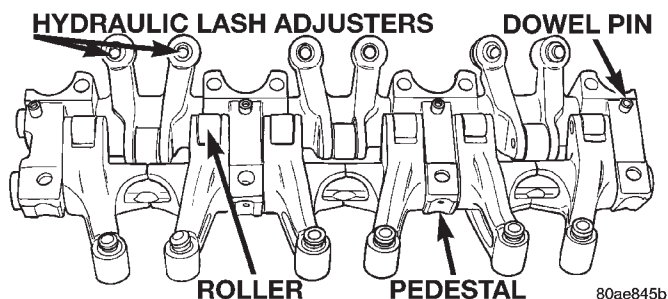

Fig. 107 Assemble Rocker Arms and Shaft
- (1) Install the rocker arms, and pedestals onto the shaft.
- (2) Install dowel pins (Fig. 107). Dowel pins pass through the pedestal into the exhaust rocker shafts. Dowel pins should be pressed in until they bottom-out against the rocker shaft in the pedestal.